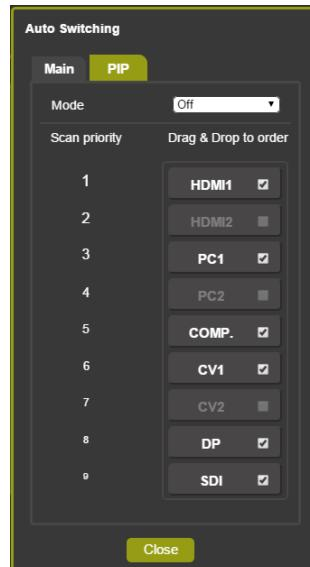

Figure 50: The Routing & Scaling Page – selecting the Inputs to Scan (PIP Tab)
- **Scan** mode to scan through the inputs in search of a valid input signal. In the scan mode you can select which of the inputs will be included in the scan (see Figure 50) and also change the order of the scanned inputs (see Figure 51)